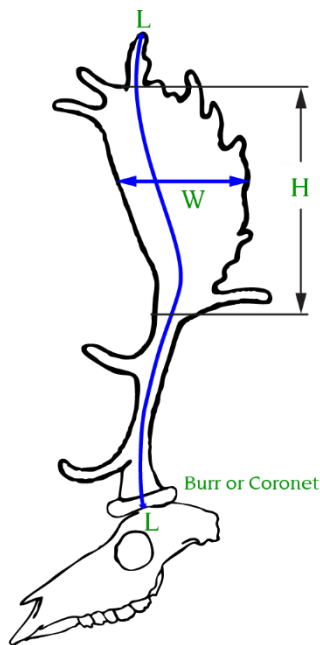
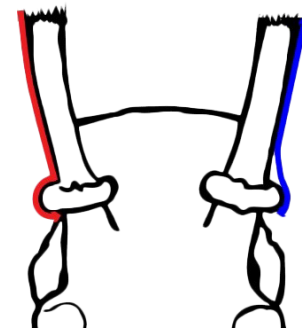

Figure 1
Figure 2
1. Length of the Main Beam. Measure the length of each antler on the outside curve from the lower edge of the burr (coronet) to the tip of the main antler. (Figure 1, L) Start to measure on the side of the burr at the lower edge, on the point that lies between the eye socket and the ear canal. In some cases a burr will hardly be any more in circumference than the main beam; in others it protrudes significantly like the top part of a cork of a champagne bottle. If the burr protrudes outward from the main beam, the tape measure must not be pressed into the 90-degree corner where the burr meets the beam; rather the tape measure must span this distance by forming an air gap. (Figure 2. The red line is incorrect; the blue line is correct.)
Follow the natural curve on the center of the beam first and then stay on the center of the palm. (Figure 1) The center of the beam/palm can be found by measuring the width two or three times from top to bottom and marking the center with a pencil. The tip is the tine that protrudes farthest and, thus, creates the highest score. (Figure 1, L) In many cases that tine is the foremost point on the top of the palmation, but sometimes the tip can be a tine toward the front or rear. Only when the tape nears the top of the palm should you divert from the centerline of the palm; at that point, go to the center of the longest tine and follow it to the end.